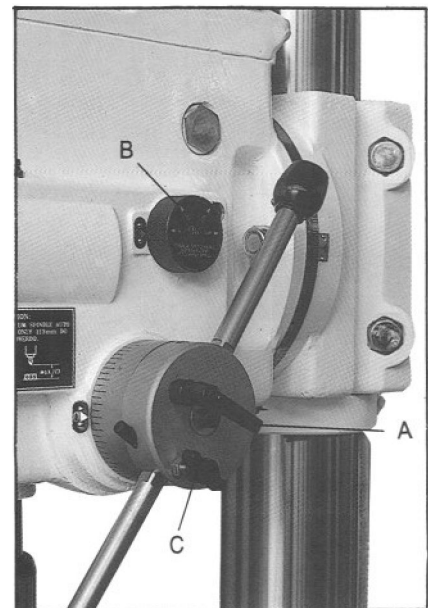

Figure 9
**Depth Stop (GHD-20PF/20PFT) (A, Figure 9)** - located on the downfeed assembly on the right side of the head assembly. When set, the quill will advance automatically or manually to a certain depth.
**Power Downfeed Speed Selector (GHD-20PF/ 20PFT) (B, Figure 9)** - located on the right side of the head assembly. Set to advance the quill at desired speed. Engage the power downfeed by pulling the handle assembly away from the head. Disengage the power downfeed by pushing the handle assembly toward the head. Tighten Lock Screw (C, Figure 9) to lock out the power downfeed and to keep the drill in manual feed only.